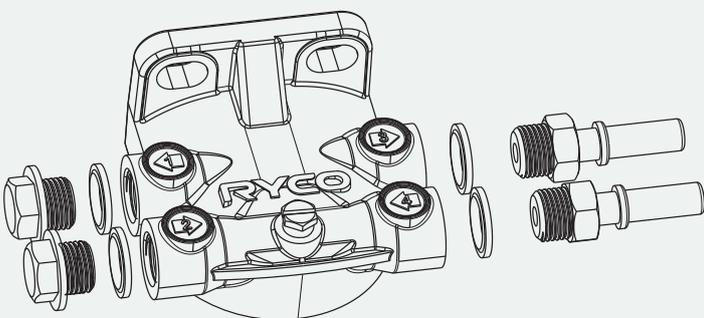

FIGURE 3 FUEL WATER SEPARATOR HEAD PREPARATION
- 1 Install the Ryco fuel water separator head with metal quick connectors, blanking plugs and rubber bonded washers, as per Figure 3. Tighten blanking plugs (port 1 & 2) and quick connectors (port 3 & 4).